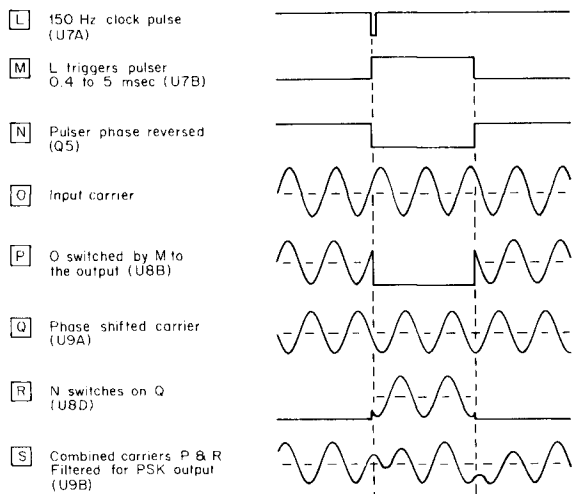
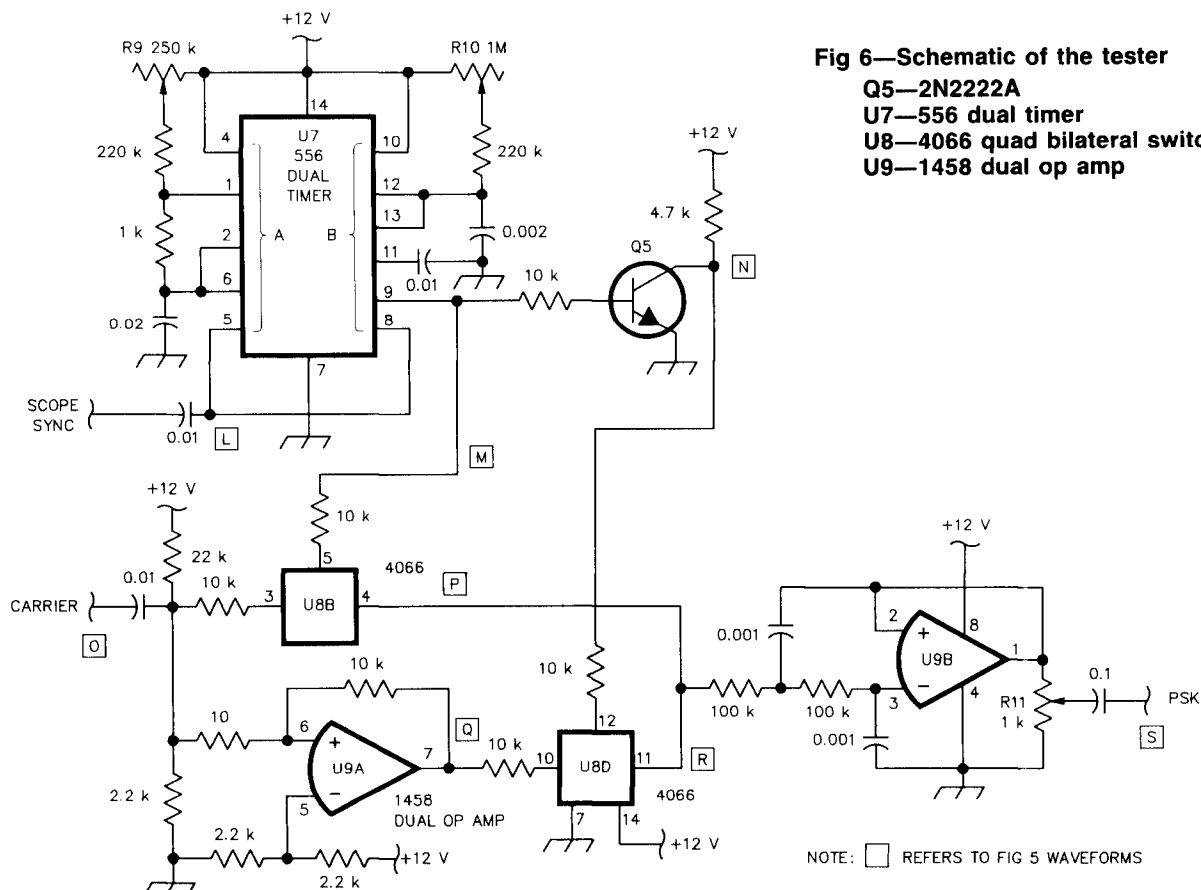

Fig 5—Tester waveforms
Fig 6—Schematic of the tester
In the PSK output there is a series of synchronizing packet start flags (01111110) transmitted between data streams. The demodulator will indicate this as a 150-Hz series of 0.8-ms pulses. The tester simulates this sequence. The waveform diagram, Fig 5, and the schematic, Fig 6, describe this assembly.
Tester—Figs 5 and 6. (1) Clock: Adjust R9 for a clock frequency of 150 Hz. (2) Pulse width: Adjust R10 for a pulse width of 0.8 ms. (3) Carrier: Connect the input to a 1600-Hz sine wave 4 V P-P (4) Output: Adjust R11 for an output level of 1 V P-P.